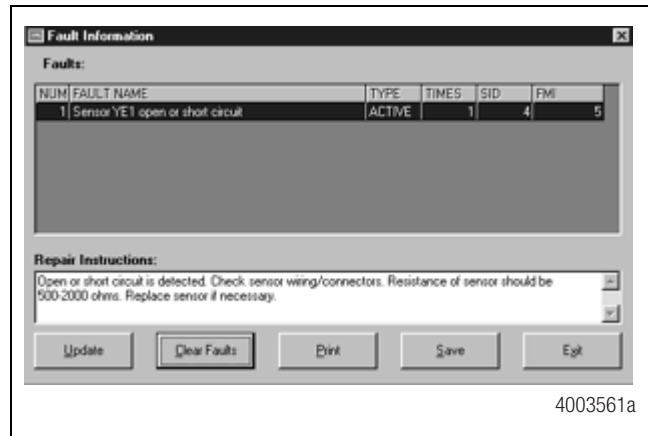

Figure 13
- Apply 12 volts DC to the red wire (stoplight power). Check the screen for the correct voltage (9.4 to 14 volts). Stoplight power voltage is displayed in the SECONDARY field. Figure 13.